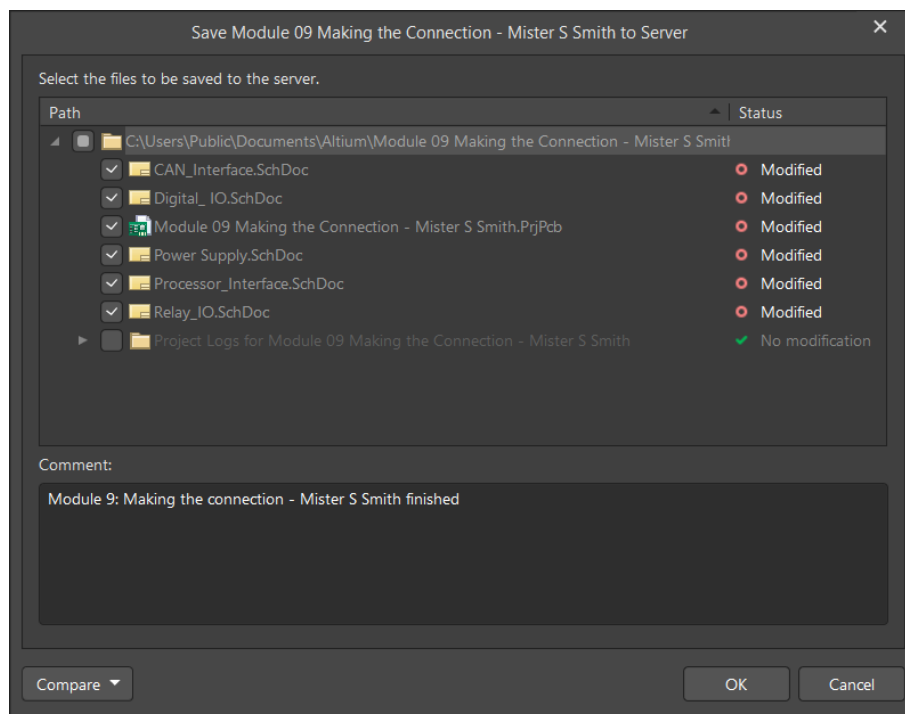

Figure 36. Save to Server
52. At the dialog *Save [Project Name]*, as seen at Figure 36